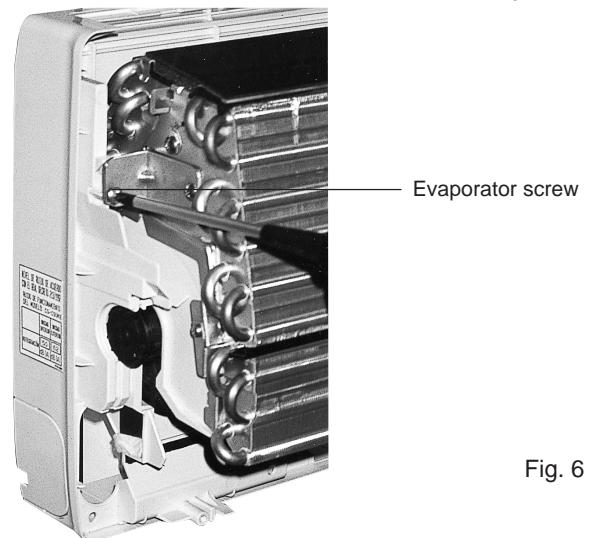

Fig. 6
- Remove the evaporator screw (Fig. 6)